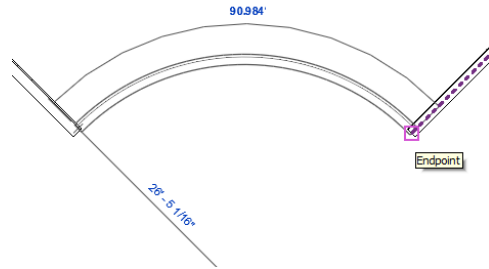
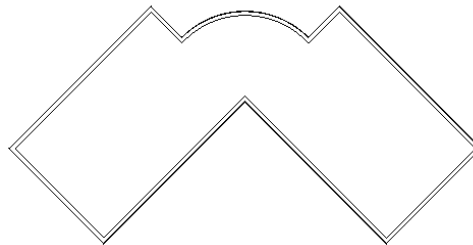

Figure 3-51 Completing the curved wall segment
Figure 3-52 Completed layout of the exterior walls for the Club project
3. Move the cursor toward the right and click when the cursor snaps to the endpoint of the inclined wall, as shown in Figure 3-51. Now, press ESC twice to complete the exterior wall profile, as shown in Figure 3-52.